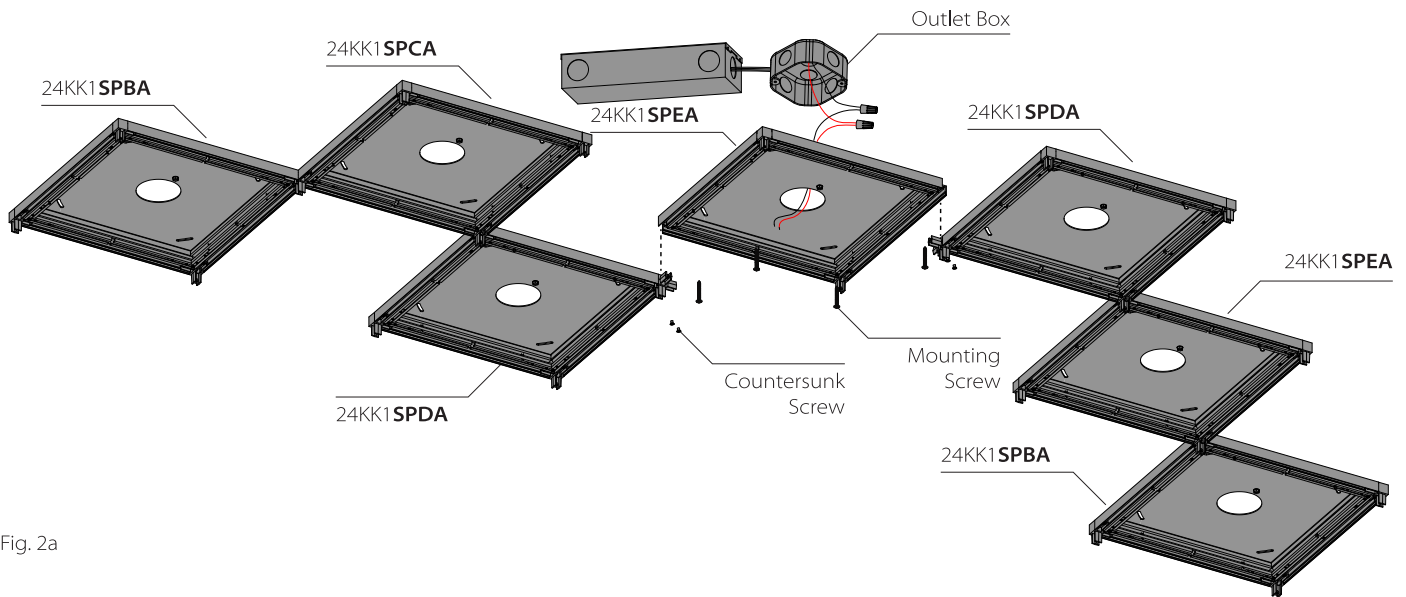

Fig. 2a
- 7a. Install (1x) 24KK1 **SPEA** over Outlet Box using mounting screws as shown in Fig. 2a.
- 7b. Using Fig. 1a and 1b on Page 4 as a guide, install (1x) 24KK1 **SPBA**, (1x) 24KK1 **SPCA**, and (1x) 24KK1 **SPDA** to one another using countersunk screws as shown in Fig. 2a and install assembly to mounted 24KK1 **SPEA** and secure with mounting screws ensuring panels are square to one another.
- 7c. Install (1x) 24KK1 **SPBA**, (1x) 24KK1 **SPEA**, and (1x) 24KK1 **SPDA** to one another using countersunk screws as shown in Fig. 2a and install assembly to mounted 24KK1 **SPEA** and secure with mounting screws ensuring that panels are square to one another.